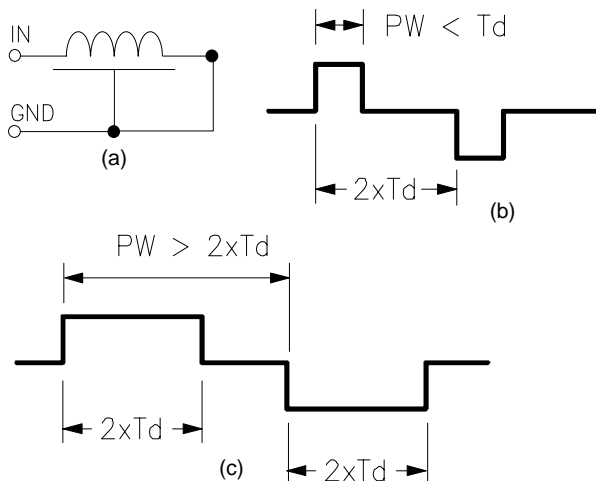

Figure 3A. Output shorted (a), and waveforms with reflections at Input for (b) Input Pulse Width < Delay and (c) Input P W > 2 x Delay.
- 3) A reflection, equal in amplitude and of opposite polarity to the impinging signal, will occur at the input of a line which is short circuited. ($R_L = 0$, see fig. 3A)